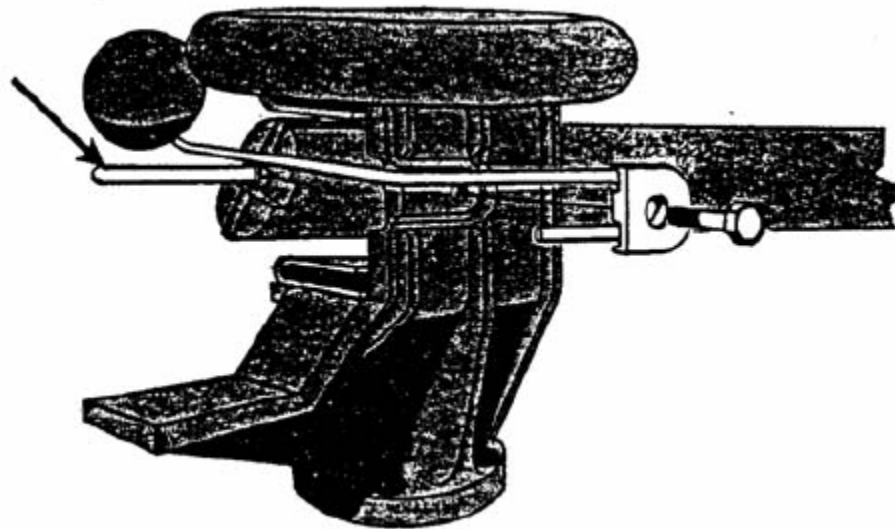

Figure 18: Arcing Horn Attachment.
3. Install the arcing horn and corona shield on each jaw as shown in Figure 18. The horns should touch *lightly* throughout their stroke. Arcing horns rubbing together with excessive pressure can cause the blade to rotate outside the contacts causing switch malfunction. Bend the stationary horn as required to achieve enough pressure for contact, but not so much as to cause binding.